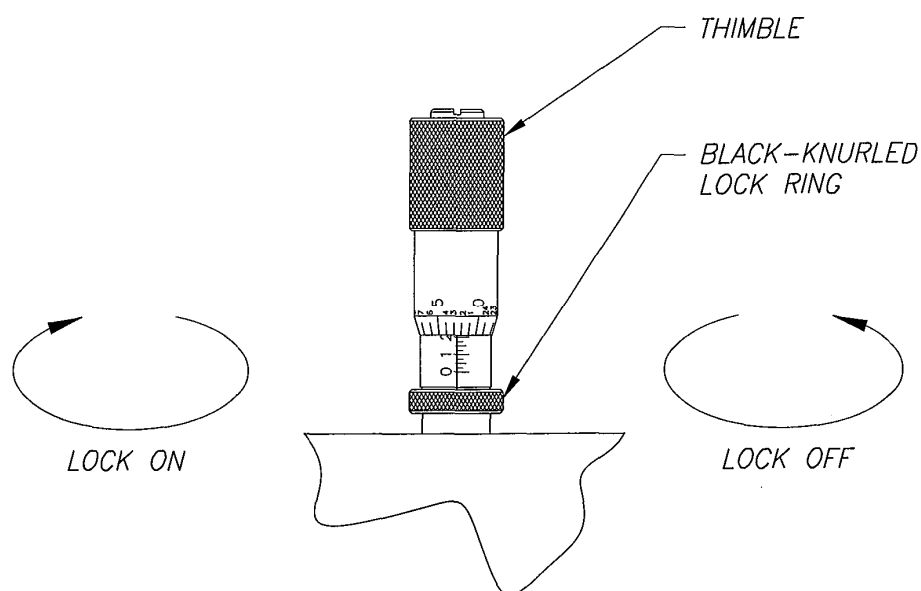

Figure 3. Micrometer Locking Ring Operation
4. **Micrometer Locking Rings:** Each micrometer has a black-knurled locking ring, that when turned clockwise, will lock the micrometer so it will not easily rotate. This ring must be unlocked (turned counterclockwise) before the micrometer is rotated or the tuner may be damaged. With the ring in the unlocked position, the micrometer thimble will turn easily with little or no resistance. This allows the user to feel the mechanical stops and avoid applying undue rotational pressure. See Figure 3 for an illustration of the micrometer locking ring operation.